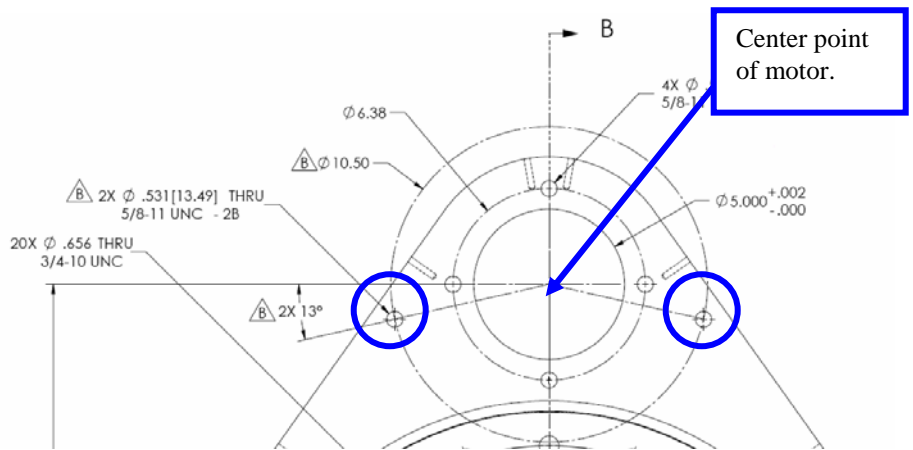

Figure 5
1. Mark location for drilling bolt holes on Upper Plate Weldment [Figure 5].
- a. Unbolt four (4) 5/8-11UNC x 2.25 hex head bolts (Item 20) attaching motor to Upper Plate Weldment
4. Apply Blue Locktite and bolt motor assembly back into place with four (4) 5/8-11UNC x 2.25 hex head bolts (Item 20).
5. Bolt on Cable Bundle Guide with two (2) 5/8-11UNC x 1.75 (Item 19), two (2) 5/8 helical spring lock washers (Item 29), and two (2) 5/8 plain type A flat washers (Item 13). Use Blue Locktite.